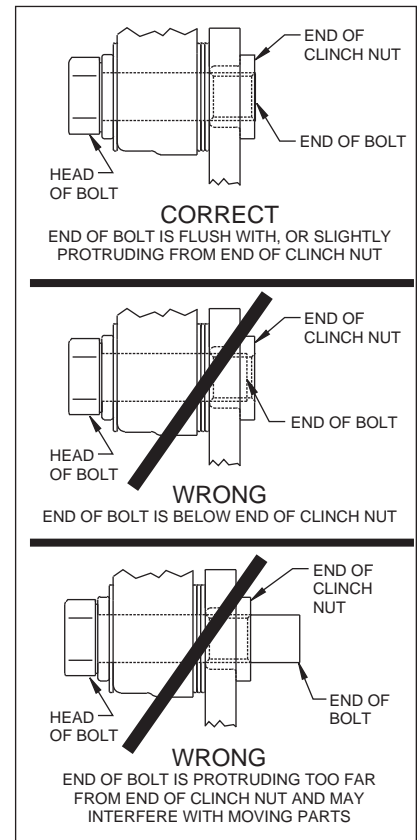

Figure 5.
- Install the dust cap (14) onto the hub (4). Friction created by the o-ring (13) on the dust cap (14) keeps it from unscrewing. The O.D. of the existing spindle washer may be larger than the I.D. of the dust cap (14) which may allow the washer to contact the dust cap (14). Use the spindle washer (12) supplied with the kit instead of the stock washer.
- **NOTE:** Please reference the caution statement at the beginning of the assembly instructions. Mount the caliper (15) onto the caliper bracket (1) using two bolts (17), two washers (16) and two flat "shim" washers (18). Finger tighten. View the rotor (8) through the top of the caliper (15). The rotor (8) should be aligned in the center of the caliper (15). If not, loosen the two bolts (17) and adjust the caliper (15) by using 0.032 inch thick shim washers (18). The shim washers (18) should be placed between the caliper (15) and the caliper mounting bracket (1). Finger tighten and recheck alignment. Add as many shim washers (18) as necessary to achieve the correct alignment. **NOTE:** The end of the bolt must be flush with or slightly protruding from the head of the clinch nut. See Figure 5.